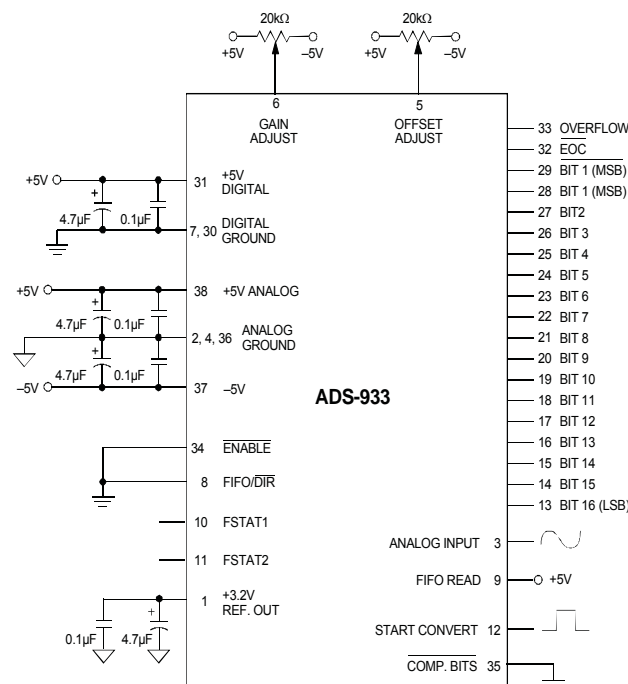

Figure 2. Bipolar Connection Diagram
- The ADS-933 achieves its specified accuracies without the need for external calibration. If required, the device's small initial offset and gain errors can be reduced to zero using the adjustment circuitry shown in Figure 2. When using this circuitry, or any similar offset and gain calibration hardware, make adjustments following warmup. To avoid interaction, always adjust offset before gain. Tie pins 5 and 6 to ANALOG GROUND (pin 4) if not using offset and gain adjust circuits.
Connect the converter per Figure 2. Any offset/gain calibration procedures should not be implemented until the device is fully warmed up. To avoid interaction, adjust offset before gain. The ranges of adjustment for the circuits in Figure 2 are guaranteed to compensate for the ADS-933's initial accuracy errors and may not be able to compensate for additional system errors.